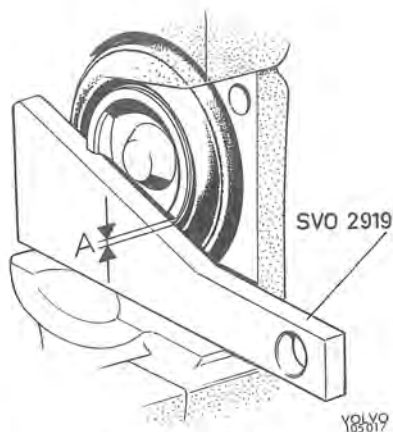

Fig. 5-29. Checking location
3. Check to make sure the pistons are in the proper position to avoid brake squeal. The piston recess should incline 20° in relation to the lower guide area on the caliper. Check the location with template 2919, see Fig. 5-29. The tolerance is $\pm 2^\circ$.